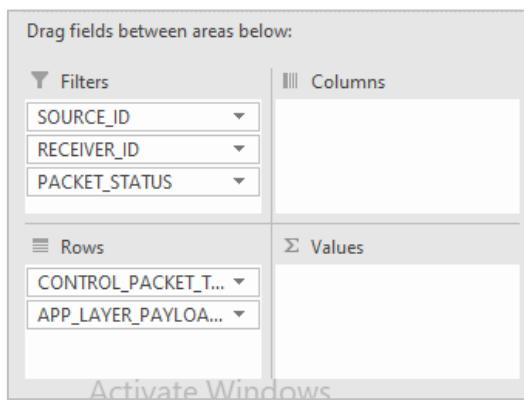

Figure 8-51: Drag and drop Sleted Fields to one of the four areas below the Field List
- Drag and drop SOURCE_ID, RECEIVER_ID and PACKET_STATUS to FILTERS field, then CONTROL_PACKET_TYPE/APP_NAME, APP_LAYER_PAYLOAD to ROWS field Figure 8-51.